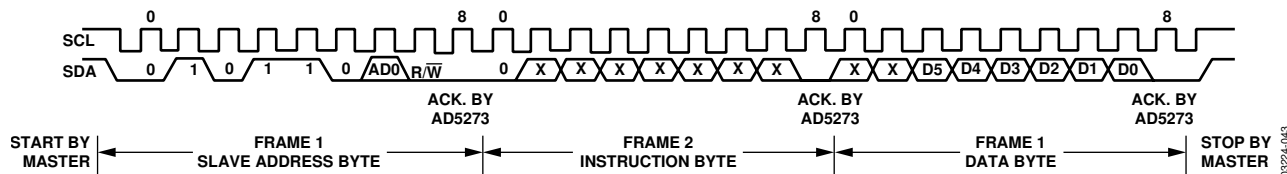
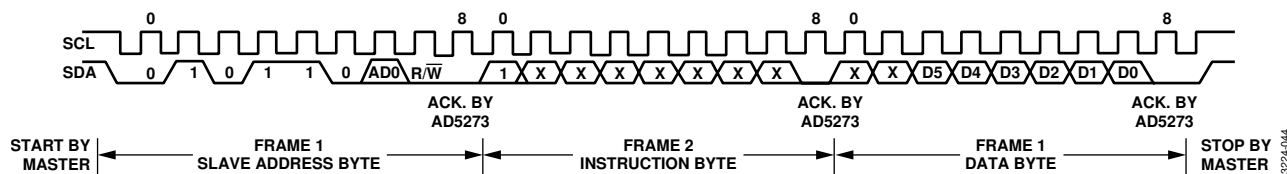
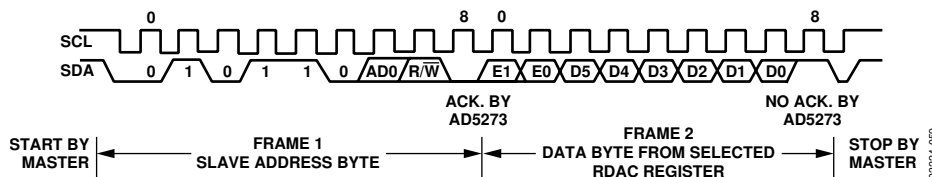
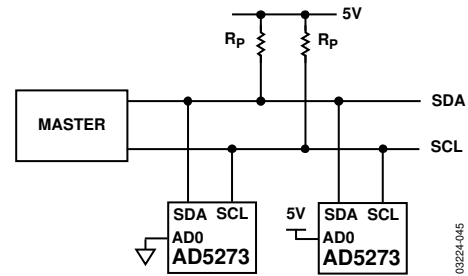

Figure 41. Writing to the RDAC Register
Figure 42. Activating One-Time Programming
Figure 43. Reading Data from the RDAC Register
Figure 44. Two AD5273 Devices on One Bus
For users who do not use the software solution, the AD5273 can be controlled via an I2C-compatible serial bus and is connected to this bus as a slave device. Referring to Figure 41, Figure 42, and Figure 43, the 2-wire I2C serial bus protocol operates as follows:
1. The master initiates data transfer by establishing a start condition. A start condition is defined as a high to low transition on the SDA line while SCL is high, as shown in Figure 41. The byte following the start condition is the slave address byte, which consists of six MSBs defined as 010110. The next bit is AD0; it is an I2C device address bit. Depending on the states of the AD0 bits, two AD5273s can be addressed on the same bus, as shown in Figure 44. The last LSB is the R/W bit, which determines whether data is read from or written to the slave device.
2. A write operation contains one more instruction byte than the read operation. The instruction byte in the write mode follows the slave address byte. The MSB of the instruction byte labeled T is the OTP bit. After acknowledging the instruction byte, the last byte in the write mode is the data byte. Data is transmitted over the serial bus in sequences of nine clock pulses (eight data bits followed by an acknowledge bit). The transitions on the SDA line must occur during the low period of SCL and remain stable during the high period of SCL, as shown in Figure 41.
3. In read mode, the data byte follows immediately after the acknowledgment of the slave address byte. Data is transmitted over the serial bus in sequences of nine clock pulses (slight difference from write mode, there are eight data bits followed by a no acknowledge bit). Similarly, the transitions on the SDA line must occur during the low period of SCL and remain stable during the high period of SCL, as shown in Figure 43.
line high during the 10th clock pulse to establish a stop condition, as shown in Figure 41 and Figure 42. In the read mode, the master issues a no acknowledge for the ninth clock pulse, that is, the SDA line remains high. The master then brings the SDA line low before the 10th clock pulse, which goes high to establish a stop condition, as shown in Figure 43.
Figure 44 shows two AD5273 devices on the same serial bus. Each has a different slave address since the state of each AD0 pin is different. This allows each device to operate independently. The master device output bus line drivers are open-drain pull-down in a fully I2C-compatible interface.